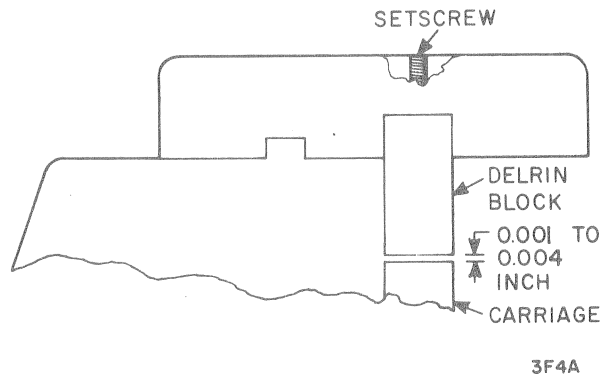

Figure 6-13. Carriage Limit Stop Adjustment
4. If the requirement of step 3 is not met, remove the screws securing the head diode board. Under the diode board (and above the Delrin block, Figure 6-13) is a setscrew. Free the Delrin block by removing the screw immediately to the rear of this setscrew. Pull the Delrin block clear of the top edge of the carriage.
7. Disengage the detent pawl and position the carriage at approximately track 100. Using a feeler gage, check that the gap dimension between the bottom of the Delrin block and the top of the carriage (Figure 6-13) is between 0.001 and 0.004 inch.